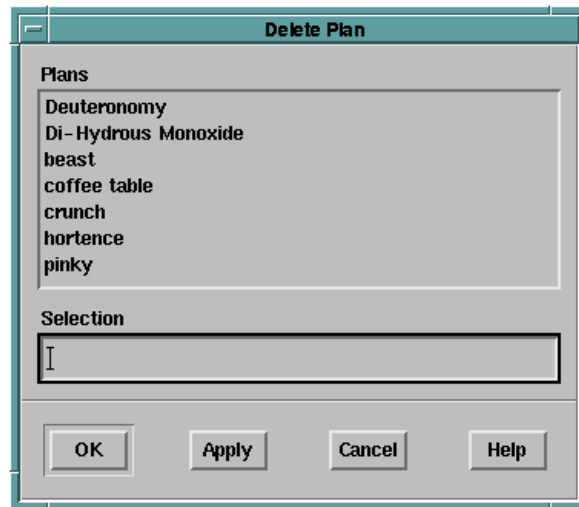

Figure 8.5.7-1. Delete Plan Dialog Box
1. Choose **Delete...** under the File menu of the Timeline. The Delete Plan dialog box opens (see Figure 8.5.7-1).